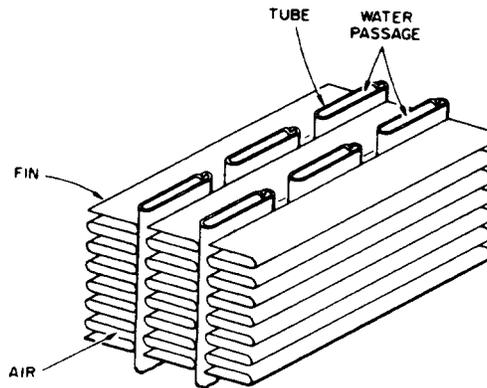

FIGURE 11—TYPICAL TUBE AND SERPENTINE FIN CORE (OFTEN REFERRED TO AS TUBE AND CENTER CORE AND CT CORE)
- 3.52 Serpentine Core**—A radiator core made with tubes and serpentine fins. Also called Tube and Serpentine Fin Core, Tube and Center Core, and CT core. See Figure 11.
- 3.53 Serpentine Fin**—A corrugated fin which is stacked with flat or oval fins to form a radiator core. The fins are joined to the tubes by soldering or brazing at the points where the fin convolutions touch the tubes. The fins may be ribbed or louvered to promote heat transfer to the cooling air. See Figure 11.